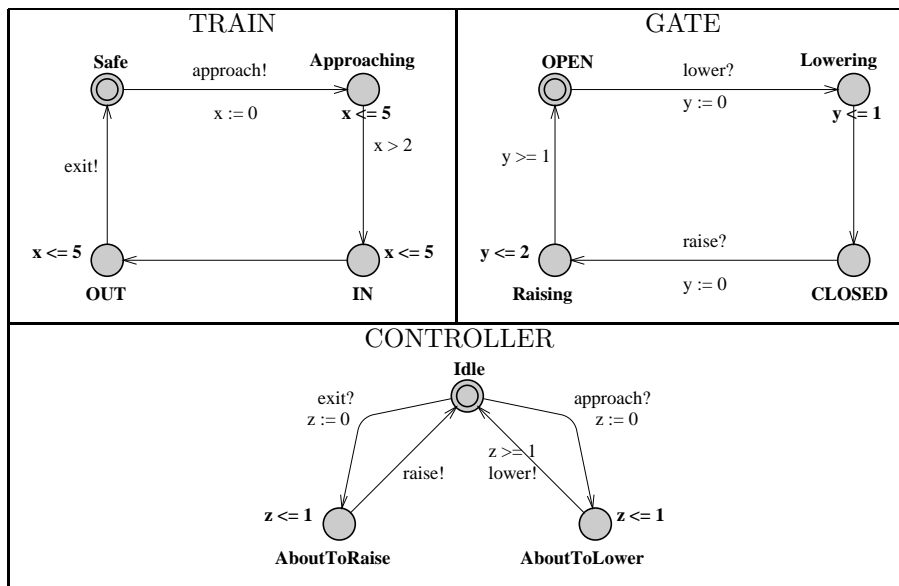

Figure 1: Train Gate Controller
A simple example of a system with real time constraints is an automatic controller for a gate on a railway crossing. The example has been studied extensively. We consider a simple system consisting of three components: a train, a gate and a controller. Each of these can be modelled as a timed automaton (see figure 1). Timing constraints are expressed using 3 clocks: x for the train, y for the gate and z for the controller. The train advises the controller of its approach at least 2 minutes before it enters the crossing. The approach of the train is indicated by the event name **approach!**. The train is reckoned to have entered the crossing when it reaches the location labelled **IN**. The maximum delay between the events **approach** and **exit** is 5 minutes. The gate is open in location **GATE.OPEN** and closed in location **GATE.CLOSED**. The events **raise** and **lower** are used to indicate requests for service from the gate by the controller. The locations **UP** (resp. **DOWN**) indicate that the gate has been completely raised (resp. lowered). The controller idles in location **CONTROLLER.Idle**. Whenever it detects that the train is approaching, it requests that the gate should be lowered. Similarly, whenever it detects that the train has left the crossing, it requests that the gate should be raised. The complete system is expressed as the composition of the three components $TRAIN \mid GATE \mid CONTROLLER$. The safety requirement for the system is straight forward: whenever the train is in the crossing, the gate should be closed.
1. Use the UPPAAL tool to construct the level crossing model exactly as shown in Figure 1.
3. How does a timed automaton (TA) differ from a standard FSA? Give examples from the model of the level crossing of:
4. How does the timed automaton (TA) model show that there is a delay of at least 2 minutes between the approach of the train and its entry into the crossing?